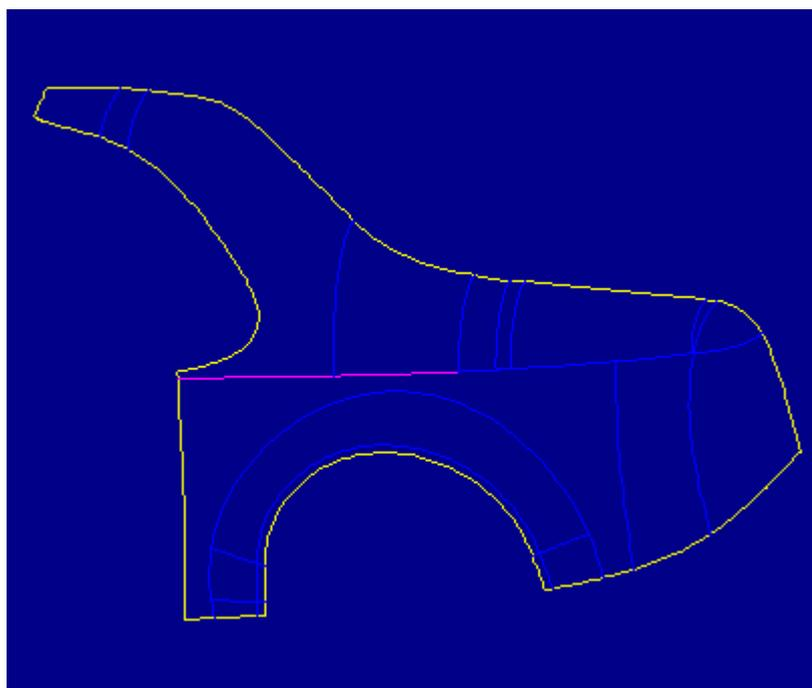

Figure 47
30. In the FIX OPTIONS menu select **Fix Tangency, Auto Select**. The two-sided edge chains that were selected are highlighted in blue in Figure 47. The one remaining magenta chain was not selected because its dihedral angles are larger than the default MaxDihedral value of 10 degrees. To check the dihedral angle of two-sided edges, in the ANALYSIS menu select **Curve Analysis, Dihedra Angle**.